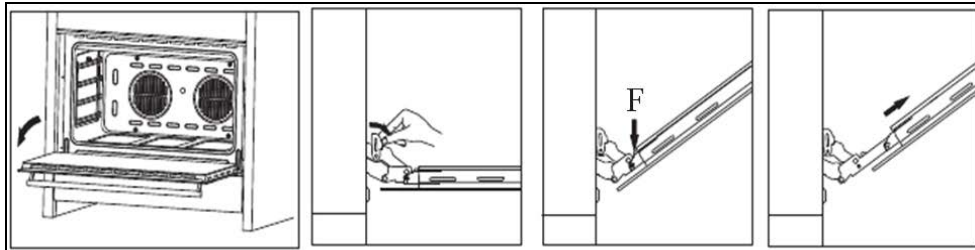

Figure 35
- While in this position release the door by pressing clamps 'F' (see illustration below) and pull the door towards you. (See Figure 35)